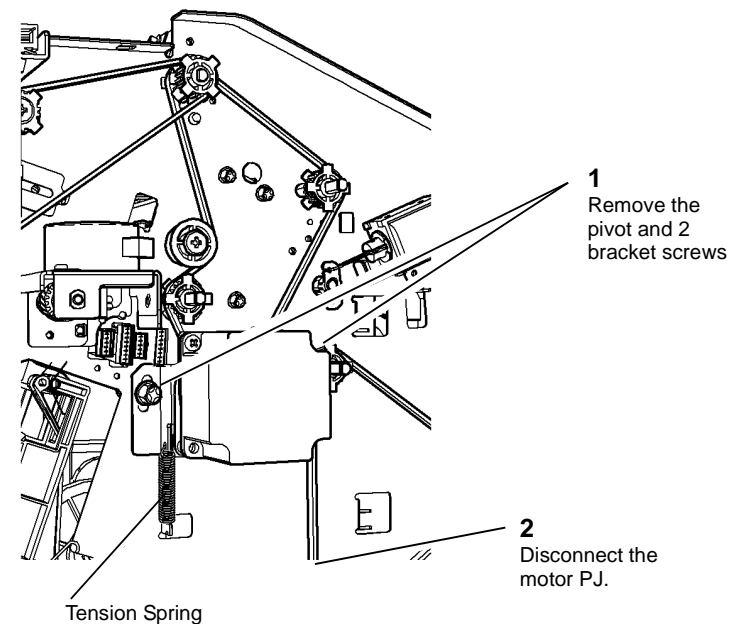

Figure 1 Exit feed motor and bracket
2. Remove exit feed motor 2 and bracket assembly, Figure 1.